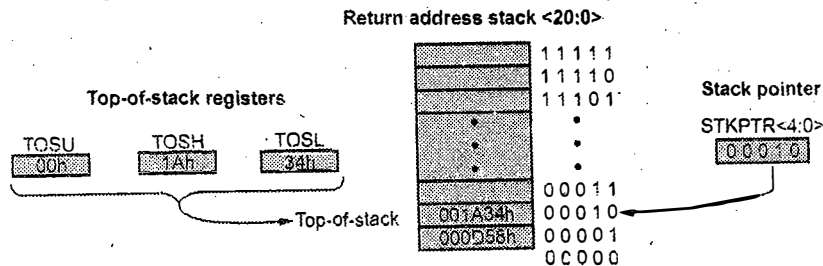

Fig. Q.7.2 : Stack indication
**STACK :** The stack operates as a 31-word by 21-bit RAM and a 5-bit Stack Pointer, STKPTR. The stack space is not part of either program or data space. The stack organization is shown in Fig. Q.7.2.